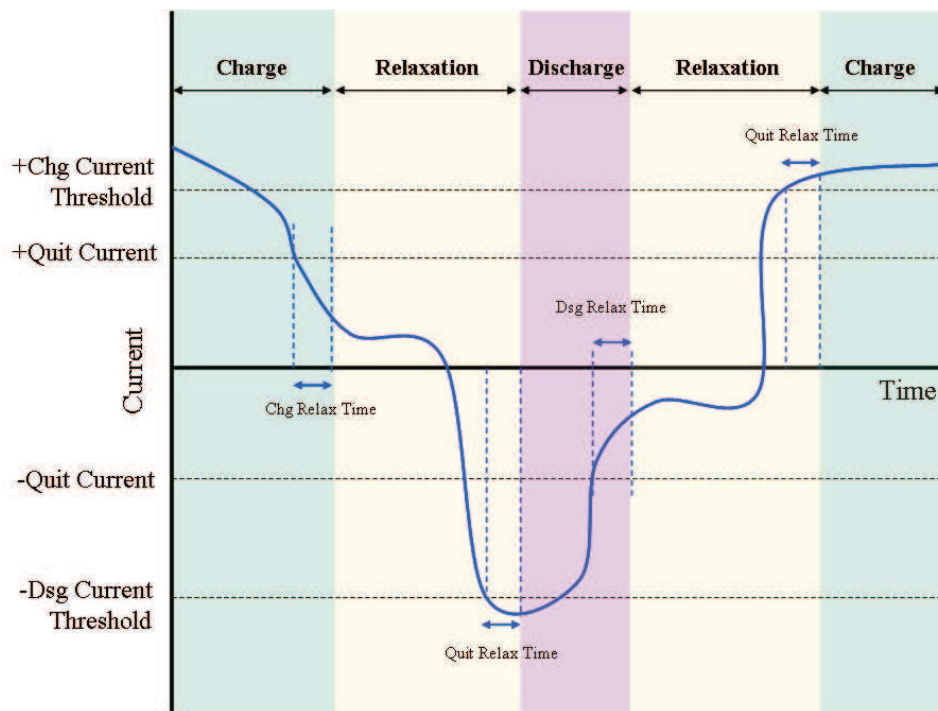

Figure 10. Example of Algorithm Operation Mode Changes With Varying *DataRAM.Average Current()*
The algorithm differentiates between *charge*, *discharge*, and *relaxation* modes of operation. During *charge* mode, the *DataRAM.Flags*() [DSG] bit is cleared, and during *discharge* and *relaxation* mode, it is set. Entry and exit of each mode is controlled by Data Flash (DF) parameters in the subclass Gas Gauging: Current Thresholds section as illustrated in Figure 10. Charge mode is exited, and relaxation mode is entered when *DataRAM.Average Current*() goes below *DF.Quit Current* after *DF.Chg Relax Time* period. Discharge mode is entered when *DataRAM.Average Current*() goes below *DF.Dsg Current Threshold* and after *DF.Quit Relax Time* period. Discharge mode is exited, and relaxation mode is entered when *DataRAM.Average Current*() goes above negative *DF.Quit Current* threshold and after *DF.Dsg Relax Time* period. Charge mode is entered when *DataRAM.Average Current*() goes above *DF.Chg Current Threshold* and after *DF.Quit Relax Time* period.